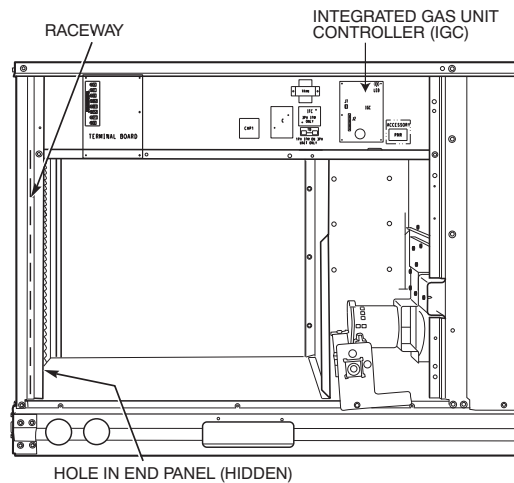
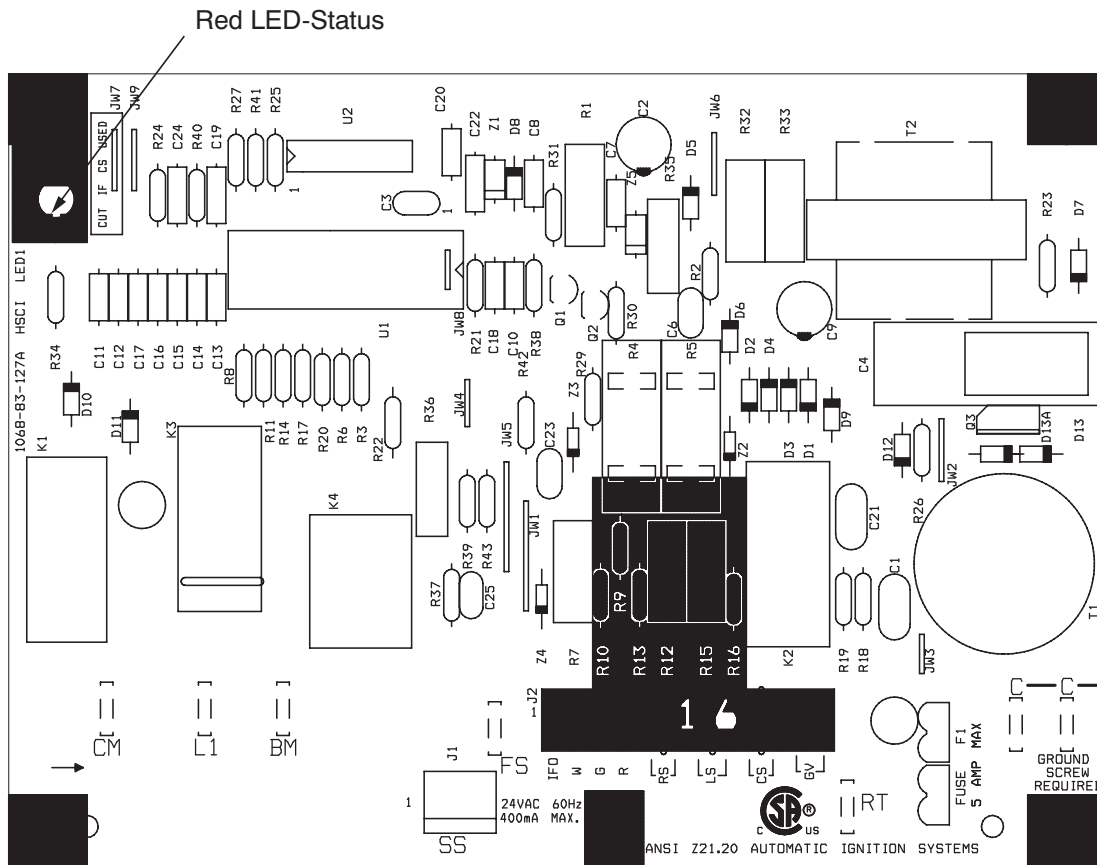

Fig. 35 – Unit Control Box/IGC Location
Fig. 38 – Integrated Gas Control (IGC) Board
6. Remove igniter wires and sensor wires at the Integrated Gas Unit Controller (IGC). (See Fig. 35.)
Unit is equipped with a direct spark ignition 100% lockout system. Integrated Gas Unit Controller (IGC) is located in the control box. (See Fig. 35.) The IGC contains a self-diagnostic LED (light-emitting diode). A single LED (see Fig. 38) on the IGC provides a visual display of operational or sequential problems when the power supply is uninterrupted. When a break in power occurs, the IGC will be reset (resulting in a loss of fault history) and the indoor (evaporator) fan ON/OFF times will be reset. The LED error code can be observed through the viewport. During servicing refer to the label on the control box cover or Table 9 for an explanation of LED error code descriptions.